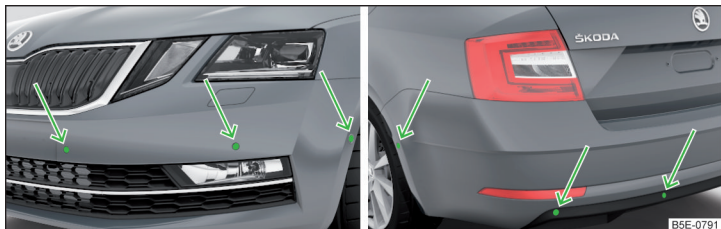

Fig. 252 Installation location of the sensors on the left side of the vehicle: front/rear
- Keep the system sensors » Fig. 252 on page 216 clean, snow-and ice-free and do not cover with any objects of any kind, otherwise the system functioning may be impaired.
The system uses ultrasound waves to calculate the distance between the bumper and an obstacle. The ultrasonic sensors are, depending on vehicle equipment, located in the back or in the front bumper » Fig. 252.